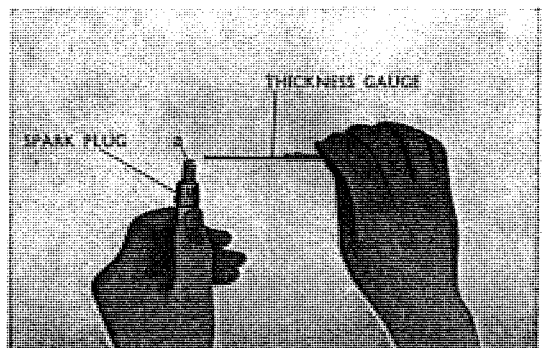

Fig. 6.16 Checking spark plug clearance
- e. The clearance of the spark plug points should be 0.6 mm (.023"). Squeeze or bend the points gently to adjust. (Refer to Fig. 6.16)